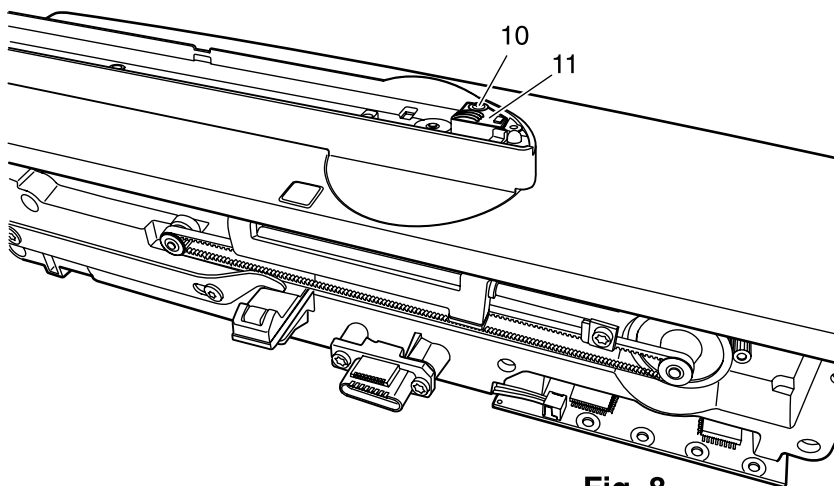

**Fig. 8**
4. Unscrew the Torx screw 10 of the Hall generator 11 (Fig. 8)